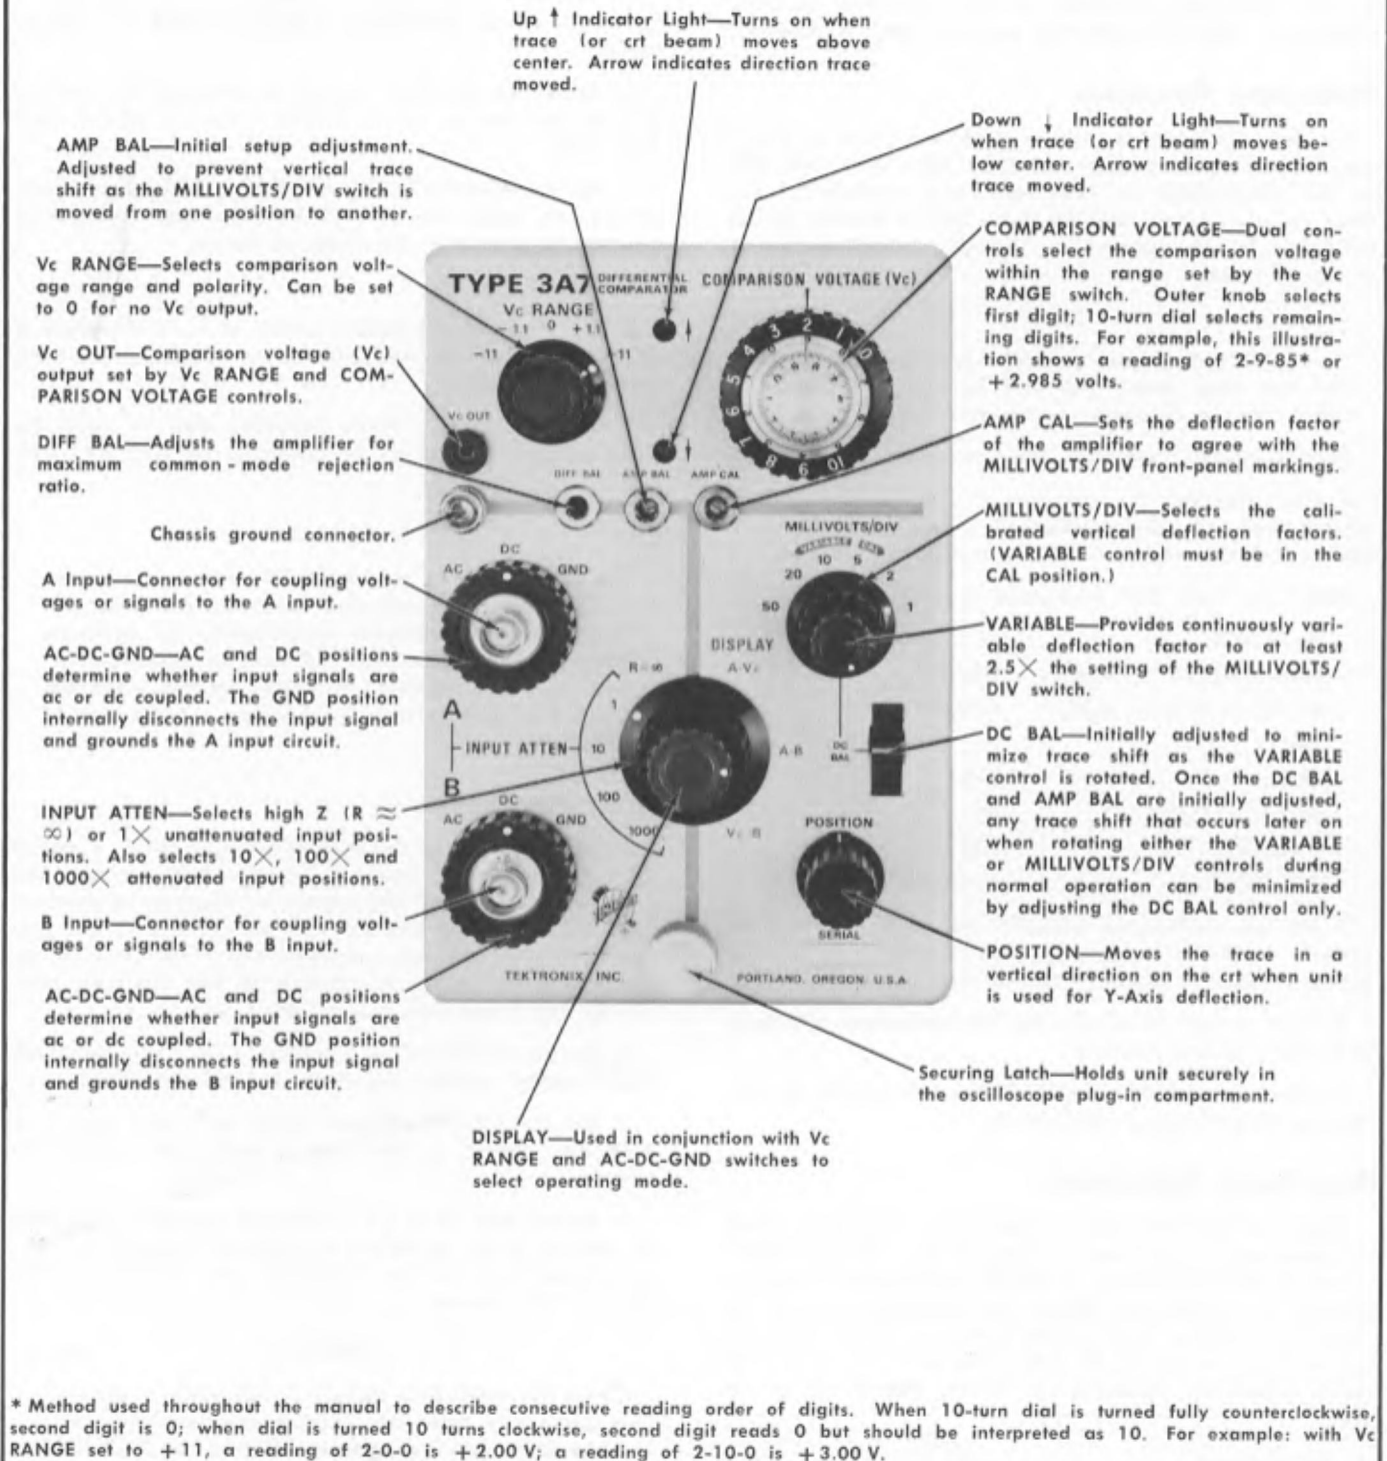
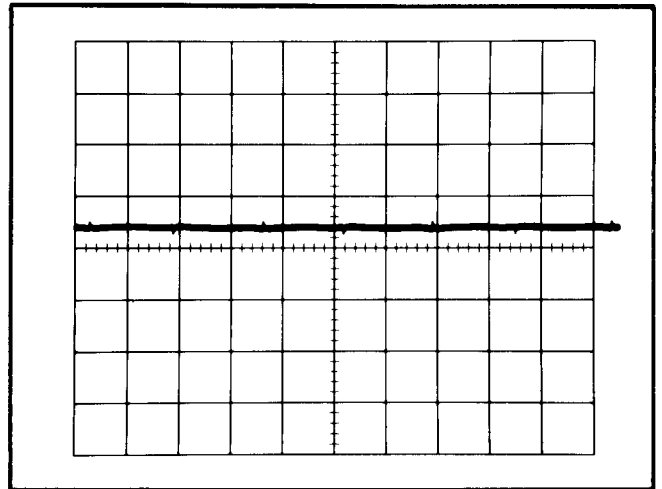

Fig. 2-1. Function of front-panel controls, connectors, indicator lights and securing latch.
Fig. 2-3. Adjusting the DIFF BAL control to obtain a minimum amplitude display.
A front-panel view of the Type 3A7 is shown in Fig. 2-1. A brief functional description of the front-panel controls, connectors, indicator lights and securing latch is included.
need for adjusting the DC BAL control (see Fig. 2-1). To make this adjustment, proceed as follows:
c. Set the MILLIVOLTS/DIV switch to 5. If the trace moves off the crt, adjust the AMP BAL control (see Fig. 2-1) to position the trace near the center of the crt.
The AMP CAL adjustment (see Fig. 2-1) should be checked periodically to assure correct vertical deflection factors. The adjustment can be made using the oscilloscope calibrator as the signal source. If greater accuracy is desired, a signal source with greater amplitude accuracy should be used.
- d. Ignoring the positive- and negative-going spikes, adjust the DIFF BAL control (see Fig. 2-1) to eliminate any square-wave response; that is, to obtain a minimum amplitude display similar to the waveform shown in Fig. 2-3.